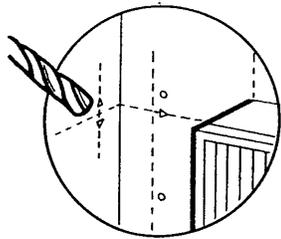

Fig. 39
13. Cut a hole approximately 107mm (4 ¹/₄ in) diameter in the masonry for the 100mm (4 in) diameter flue duct (Fig. 39). (Use of a core drill is recommended. When using a core drill, it is important to keep the drill level and square, particularly with the wall onto which the boiler is to be fitted).